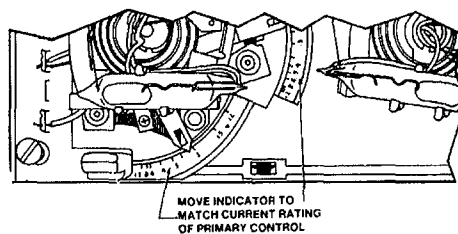

Figure 2
4. Set heat anticipator (See Figure 2).